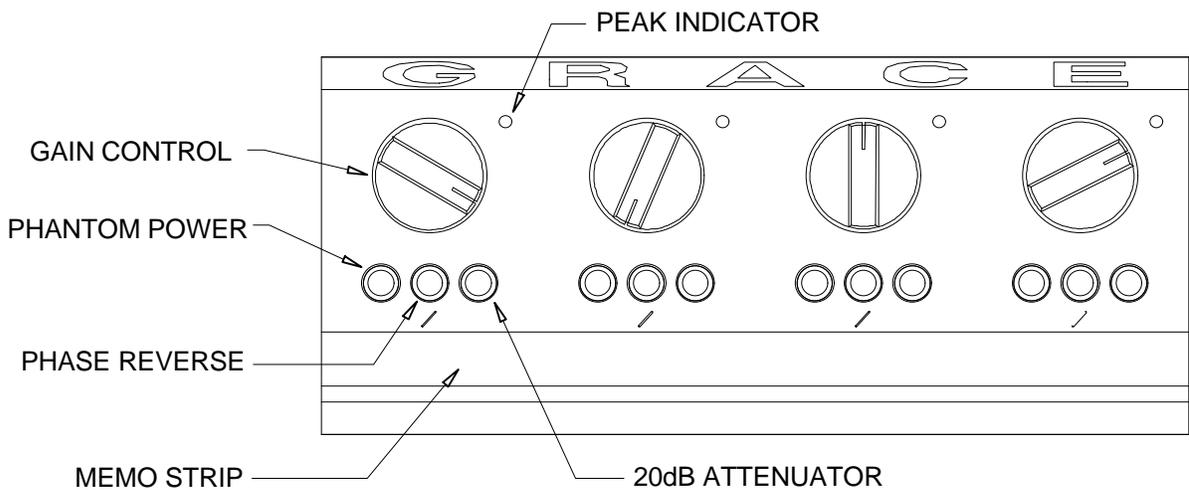

Figure 1. Front panel controls
- iii. Connect the level meter to the output of channel 1. Set the input attenuator to +20dbu range. If the level meter has an unbalanced input, refer to Figure 1 for termination information.
- ii. Unbalanced output cable. (see Figure 1.)